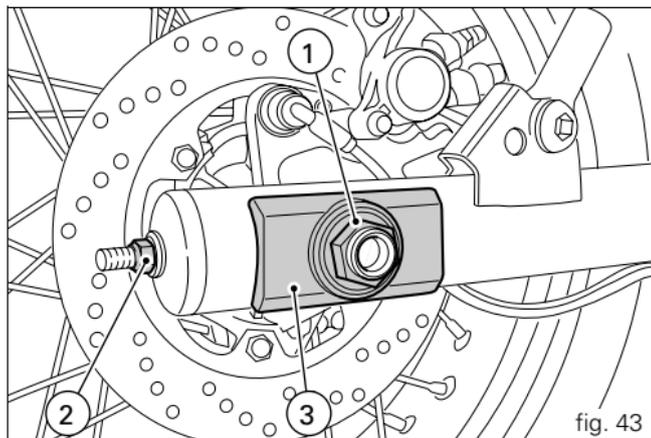

fig. 43
To adjust the tension, loosen the axle nut (1, fig. 43) and screw in the adjuster screws (2) on both sides of the swingarm by the same amount to tighten the chain or unscrew them to slacken it. In the latter case, you will need to push the wheel forward.
Check that the notches in the sliders (3, fig. 43) on both sides of the swingarm are lined up with the same positioning marks (A) to ensure that the wheel is aligned correctly. Grease the thread of the axle nut (1, fig. 43) with SHELL Retinax HDX2 and tighten to a torque of 72 Nm. Grease the threads of the adjuster nuts (2, fig. 43) with SHELL Alvania R3 and tighten to a torque of 8 Nm.